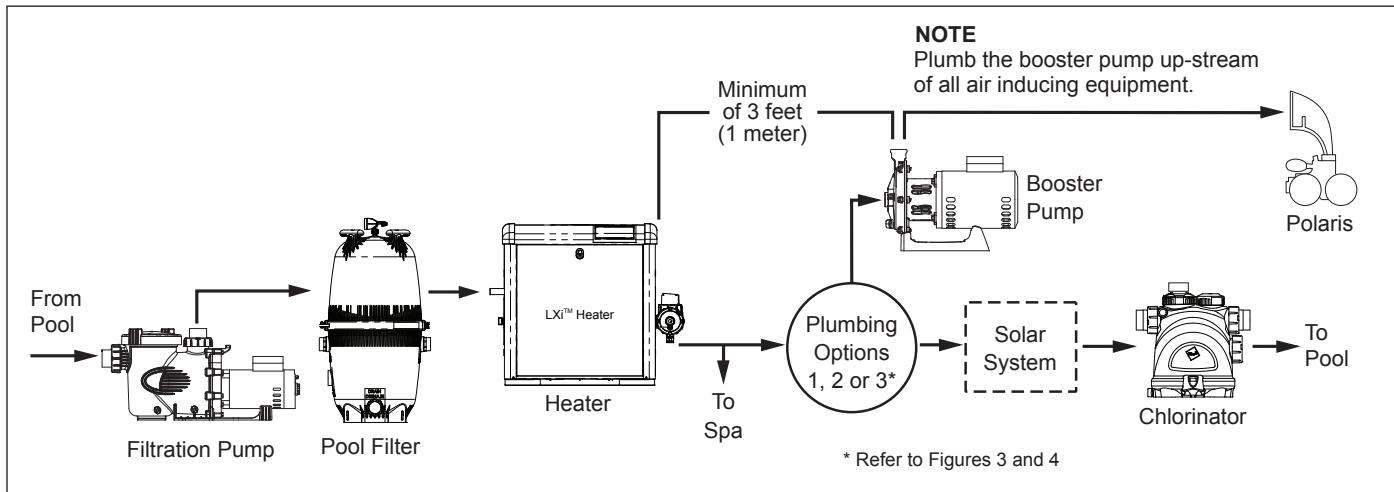

Figure 2. Typical Equipment Layout
To ensure proper function of the pump and the cleaner, refer to Figure 2 and adhere to the following guidelines for specific equipment.
- downstream and at least three (3) feet (1 meter) from the heater discharge. See Figure 2. **Do not tap the booster pump inlet into the three-foot (1 meter) section of heat sink pipe that comes directly out of the heater.**